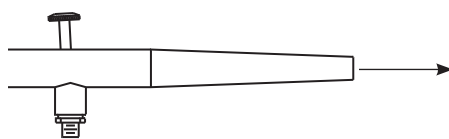

Figure 19
1. Remove needle assembly cover from air brush. See Figure 19.